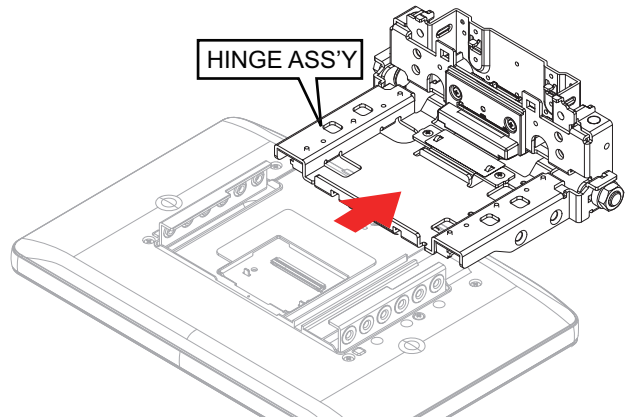

Fig.5
- (6) Slide the HINGE ASS'Y in the direction of the arrow to remove it. (See Fig.5)